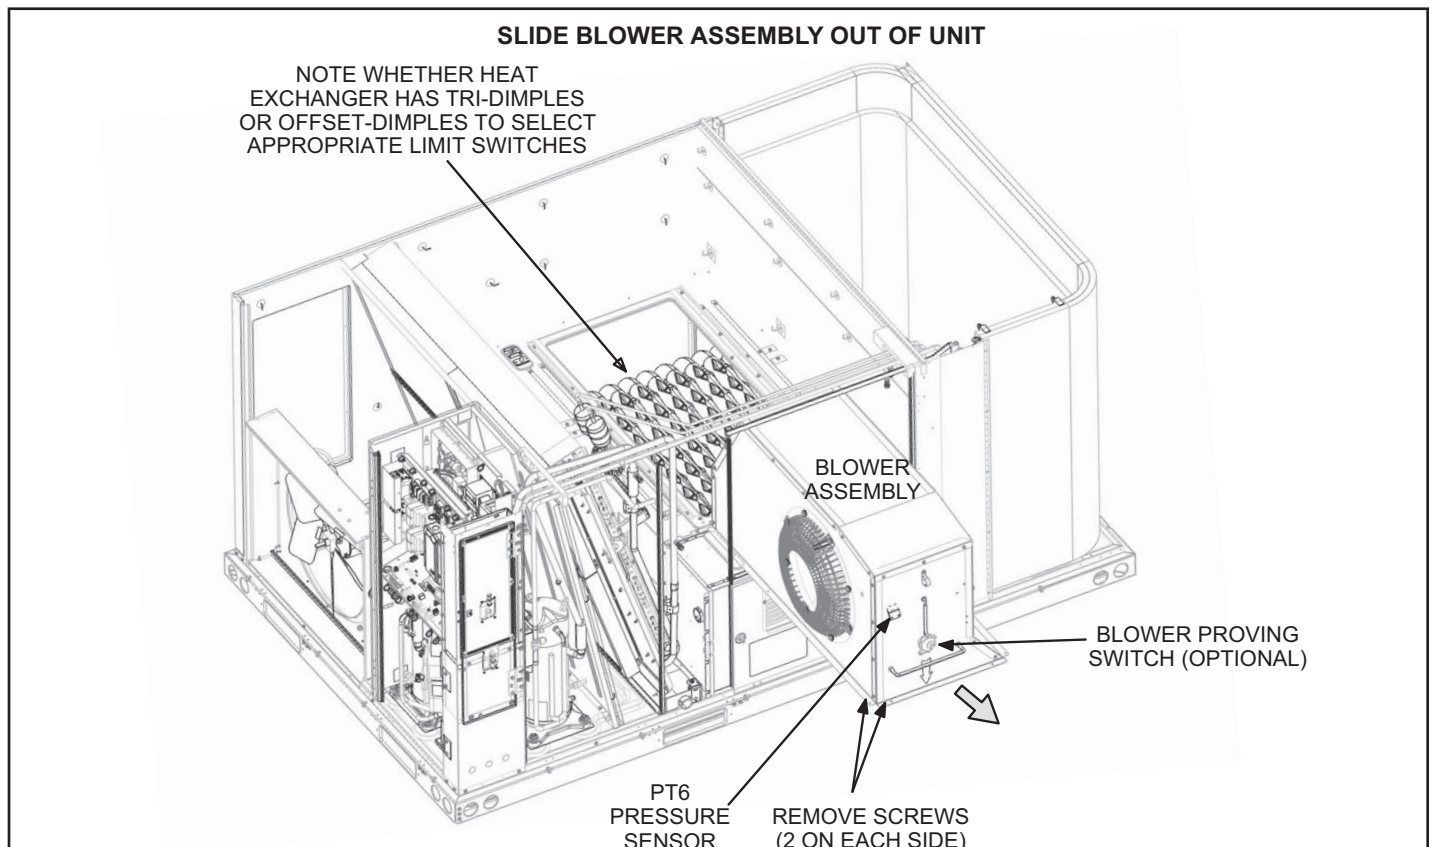

FIGURE 5
- 6 - Remove four screws securing blower assembly to unit. See figure 5.
Note - Take note of the heat exchanger dimples before replacing the blower. See figure 5. The appropriate replacement limit switches are determined by tri- or offset-dimples. See “Install New Limit Switch” section.
- 10 - Install replacement blower assembly flanges into rails on the blower deck in the same manner it was removed. Secure into place using four screws shown in figure 5.
- 4 - Select the replacement switch as follows (see figure 5 to view the heat exchanger dimples):